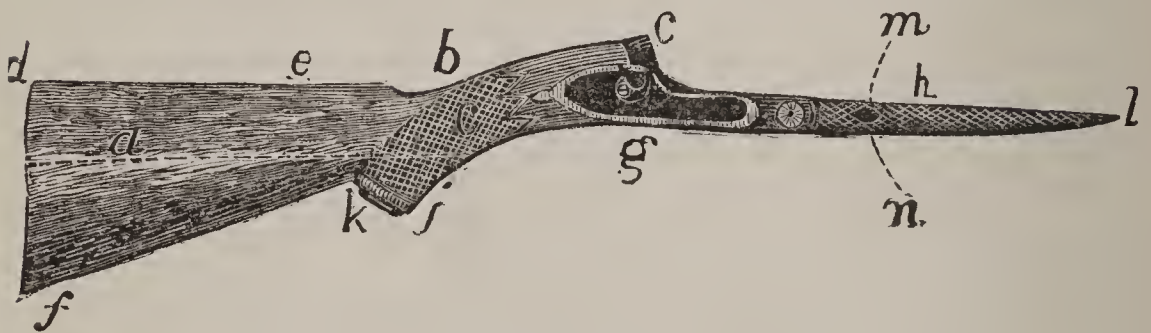

FIGURE 76.
*Nomenclature of the Gun Stock.*—Fig. 76 shows a gun stock with the locks, plates and other metal